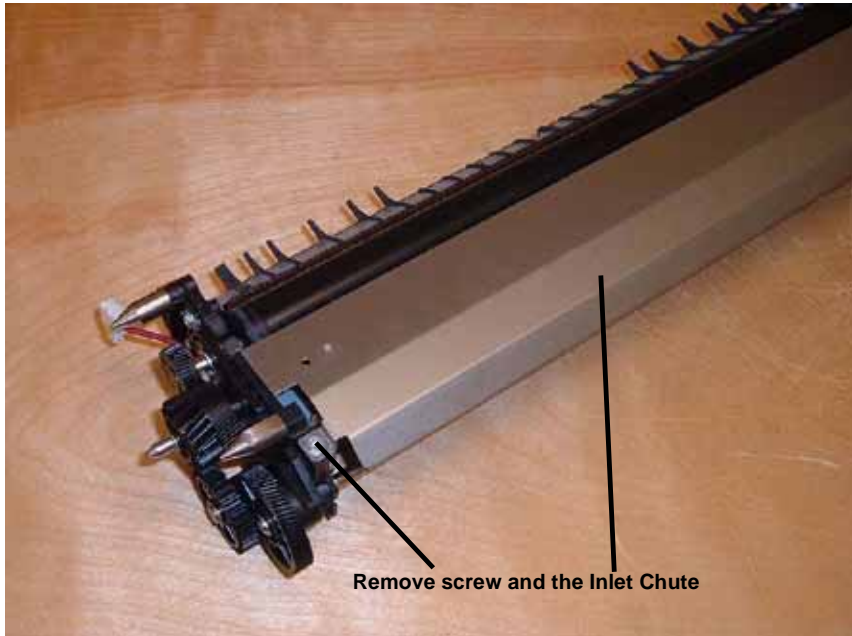

Figure 3 Removing the Inlet Chute
4. Remove the Inlet Chute (Figure 3).